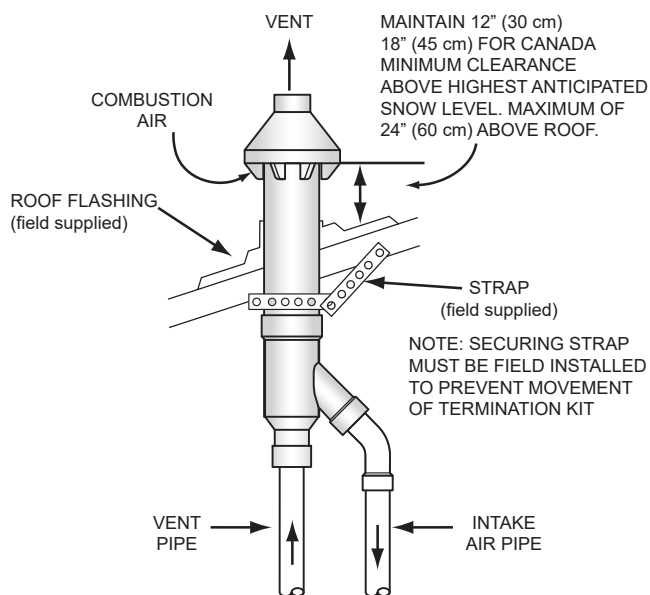
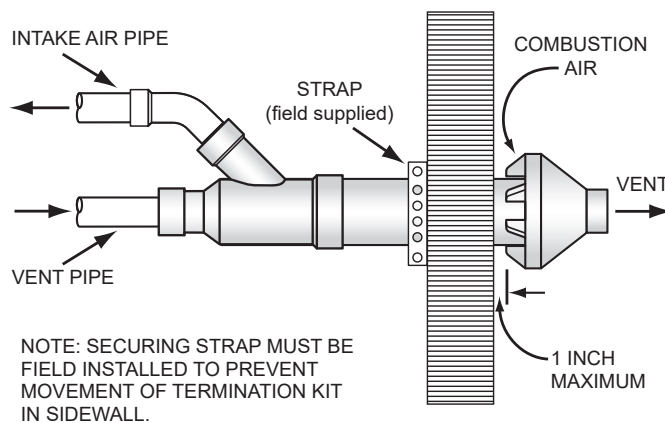

Figure 43. Concentric Termination - Vertical Installation
Figure 44. Concentric Termination - Sidewall Installation
2. When installing a concentric termination vertically through the roof, ensure that all exterior vertical clearance requirements for the concentric termination shown in *Figure 40* through *Figure 43* are being maintained. These clearances and those cited by local and national codes must be maintained.
9. Assemble and install the concentric termination. See **Figure 42**, **Figure 43**, and **Figure 44** for these instructions.
Eight concentric terminations can be installed in two stacked groups of four, in close proximity, as shown in *Figure 43*. See *Figure 43 (page 43)* for detailed information on clearances and additional arrangement options.